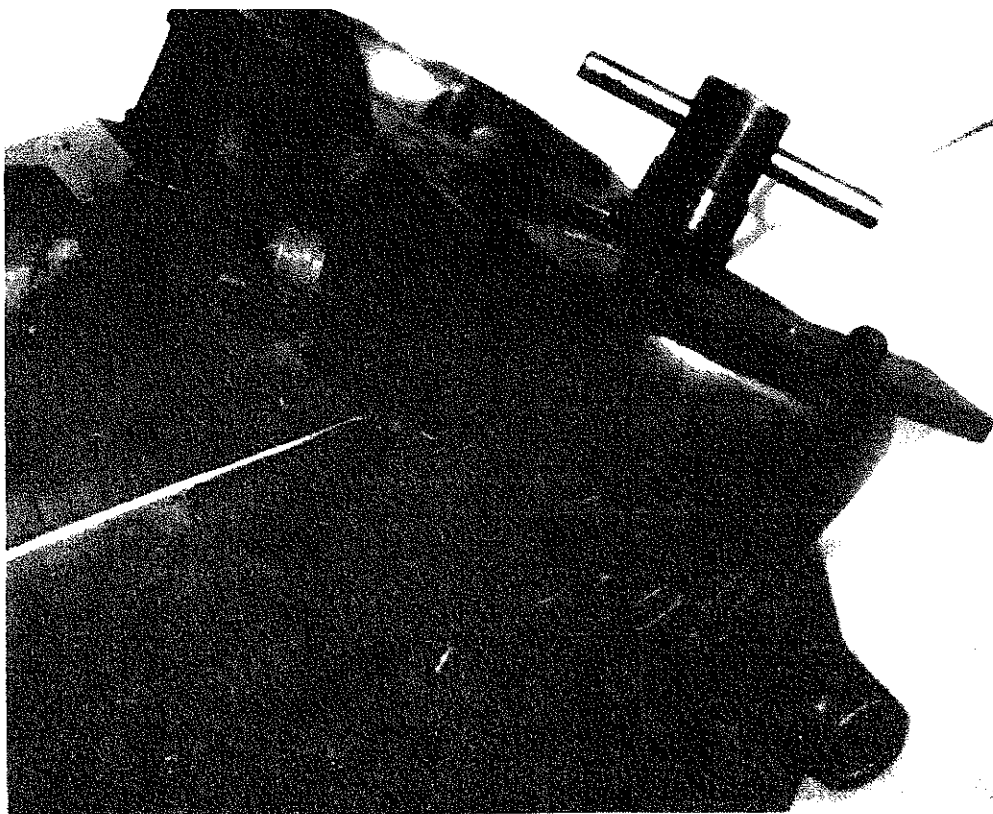

Fig 2. The tool set up for use.
holding-down bolt (6) is screwed into the strong-back and acts as a steady. In operation the screwed sleeve is adjusted until the cutter engages within the pocket, rotation of the tee handle providing the cutter motion. Small adjustment of the screwed sleeve allow additional cuts to be made until a satisfactory pocket surface is obtained. Fig. 2 shows the tool set up for use.